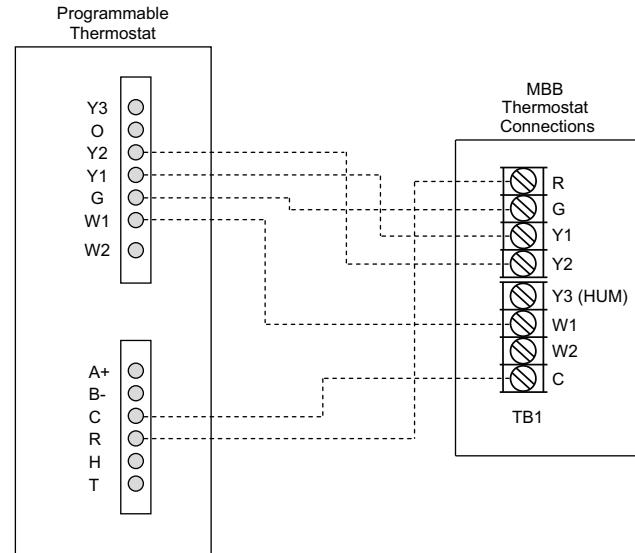

Fig. 41 – Typical Thermostat Connections – SystemVu Controller MBB
5. For connections to the SystemVu controller units see Fig. 41. Refer to the installation instructions included with the Carrier Connect Plus thermostat for more information.